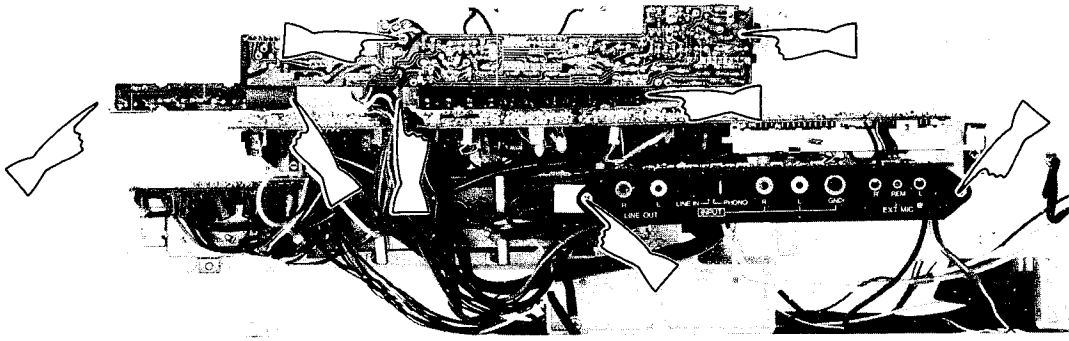

Figure 8-1
1. Remove two screws at the APLD P.W.B. and four tabs at the indicator P.W.B. holder. See Fig. 8-1.
3. Remove two screws at the input/output terminal board. See Fig. 8-1.